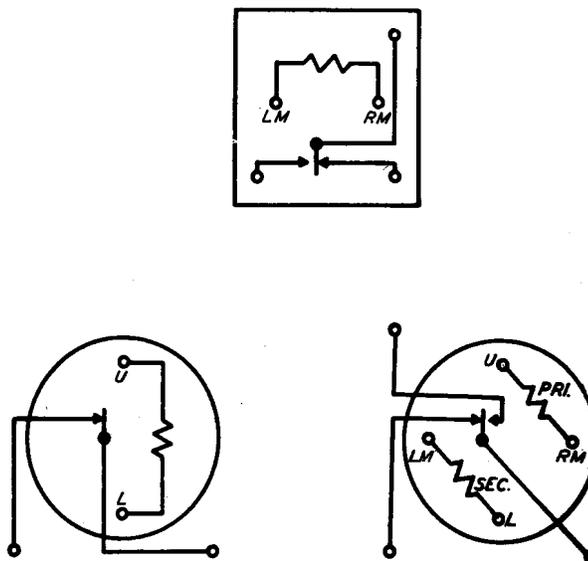

FIG. 14 - WINDING TERMINAL ARRANGEMENT AS VIEWED FROM THE REAR (TERMINAL SIDE) - 114, 124, 126, 174 AND 198 TYPE RELAYS
2.12 As viewed from the front of the relay, the contacts are numbered from left to right, that is, the front contact is indicated by 1, the armature by 2 and the back contact by 3, except on relays having only a back contact, in which case the armature is indicated by 1 and the back contact by 2. Fig. 14 shows the